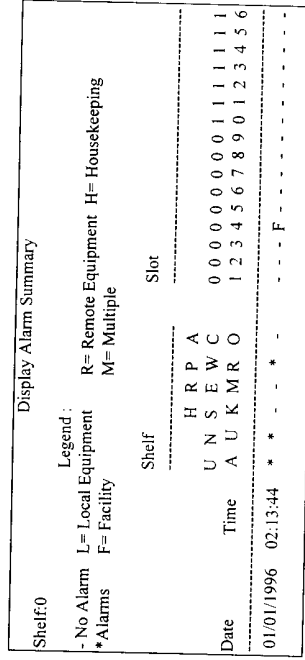

Figure 3-14 Alarm Summary Screen
2. Use the Arrow or Numeric keys to select Display Alarm Summary from the Alarms Menu. Press the Enter or Return key. The Display Alarm Summary screen is shown in Figure 3-14.